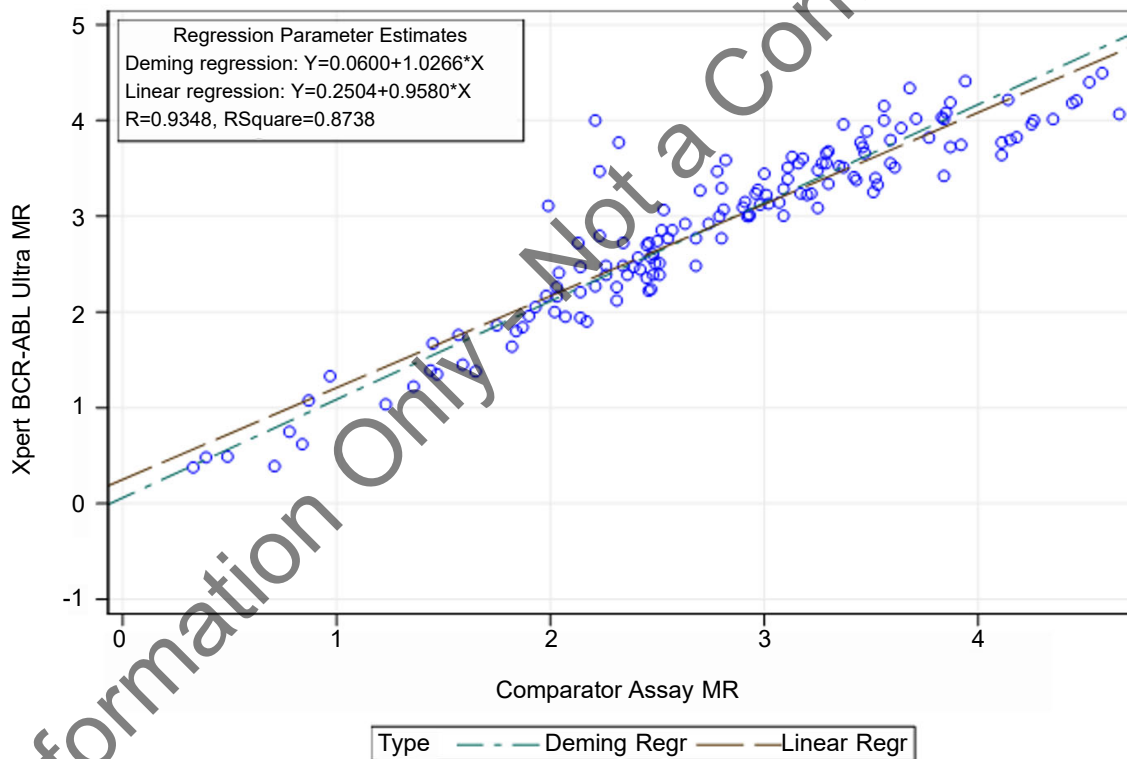

Figure 8. Deming and Linear Regression Analyses
Of the 208 results that were available for analysis, 147 had results that were within the quantitative reportable range for both assays [0.0030% - 55% (IS)/MR4.52 – MR0.26 for Xpert BCR-ABL Ultra and 0.0020% - 50% (IS)/MR4.72 – MR0.30 for the Comparator Assay]: 117 of which were from frozen left-over lysates and 30 of which were fresh prospectively collected specimens. The performance of the Xpert BCR-ABL Ultra test versus the Comparator Assay was evaluated using a Deming regression to determine the slope and intercept. Figure 8 shows the Deming regression and linear regression analysis of the 147 assay results (MR values).